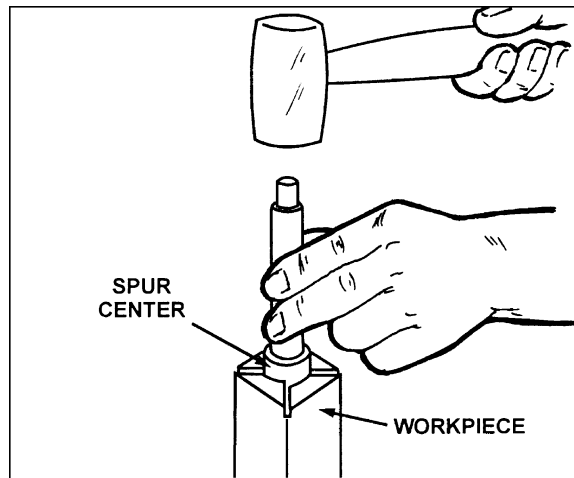

Figure 9-4
- Drive the spur center about 1/4" into the workpiece, using a wood mallet or dead blow hammer as shown in Figure 9-4. Be careful that you do not split the workpiece.